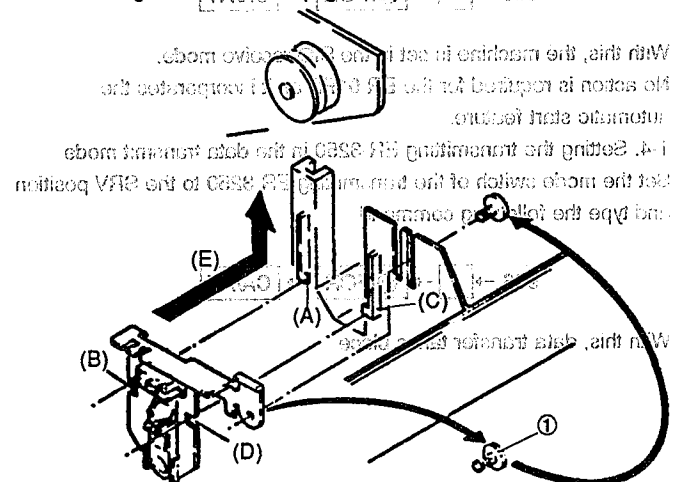

Fig. 13-4
5. Installing the sensor unit (Fig. 13-4)